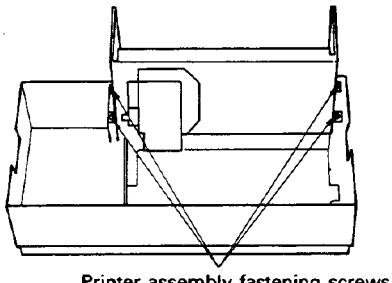

Fig. 2-5
4. Remove four printer assembly fastening screws (Fig. 2-5) and two screws fastening the right and left grounding wire to the power supply unit. Take the printer assembly rearwards out of the front panel.